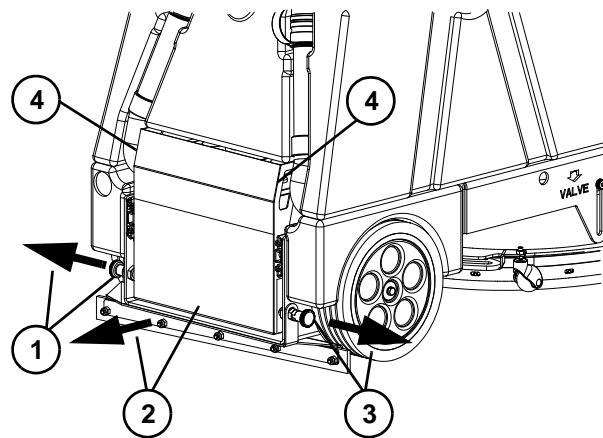

Figure 4-4
Remove the left pin (1, **Figure 4-4**), then rotate it by half turn, and block it in the removed position.
Remove the right pin (2, **Figure 4-4**), then remove the battery holder case (3) by the handles (4). Disconnect the connector (5) of the batteries. Insert again the battery holder case in its seat (3, **Figure 4-4**) and let it engage to the retainer (2) and retainer (1) after unblocking it.